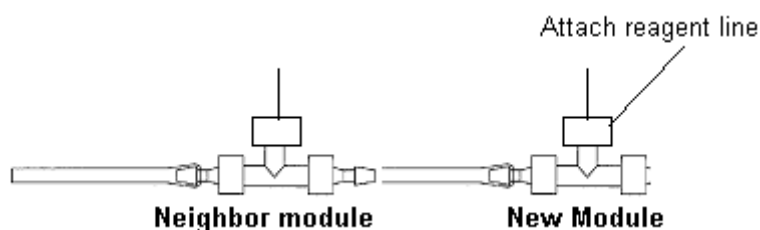

Figure 59. Connecting Two Modules Together
- 5 Connect the line for reagent 1 from the new module to the manifold (Figure 59). Use the labels in the start-up kit to help identify the lines.